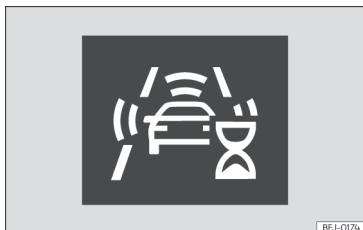

Fig. 111 On the instrument cluster screen: indication of the system's initial self-calibration.
- In the first few instants of driving after switching on the ignition, due to the system's initial auto-calibration. During this period, a status icon » **Fig. 111** is displayed.